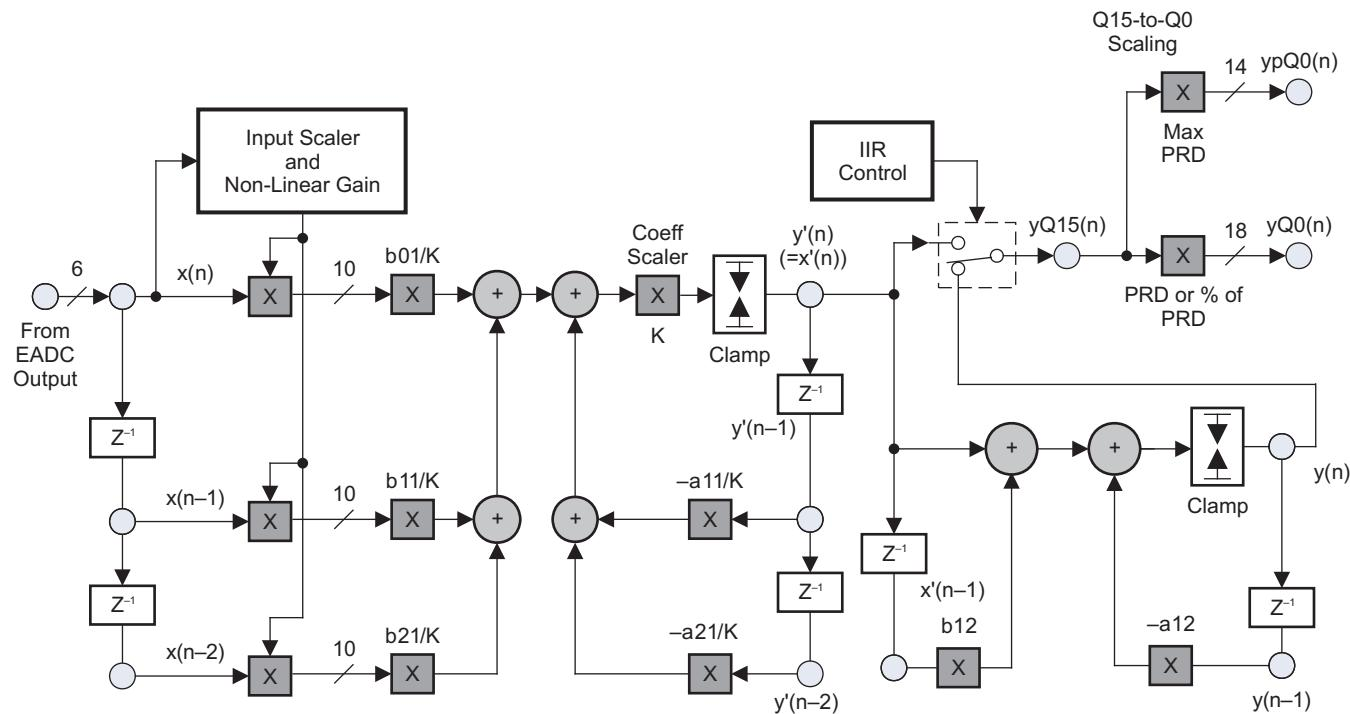

Figure 5. Compensator Architecture
The architecture of the digital compensator in the UCD30xx system is shown in Figure 5. The compensator is a digital filter consisting of a second-order infinite-impulse-response (IIR) filter section cascaded with a first-order IIR filter section. The function of the CLA is to operate on the 6-bit output from the error ADC (EADC) and generate a command output for: (1) a fixed-frequency DPWM duty-ratio control (duty-ratio control mode), or (2) a fixed-duty-ratio DPWM frequency control (resonant mode), or (3) a fixed-frequency DPWM phase-shift control of a slave DPWM with respect to a master DPWM (phase-shift control mode).
The filter mathematics calculates a per-unit command (duty-ratio control or frequency control) output [$Y_{Q15}(n)$] between 0 and 1. In duty-ratio-control mode, this command output is then multiplied by the user-programmable DPWM switching period (PRD) to determine the duty ratio of the DPWM output. The 18-bit commanded duty ratio output [$Y_{Q0}(n)$] from the CLA is made up as a 14.4 word. The upper 14 bits specify the low-resolution DPWM clock (PCLK, 250 MHz or 4 ns) counts, and the lower 4 bits specify the high-resolution clock phase, allowing a best-case DPWM resolution of 250 ps. In resonant mode, the per-unit command output [$Y_{Q15}(n)$] is multiplied by the user-programmable maximum switching period (Max PRD) to determine the switching period of the DPWM output. This commanded switching period output [$Y_{PQ0}(n)$] is a 14-bit word. In this case, the CLA also generates a fixed-duty-ratio output [$Y_{Q0}(n)$] that is based on a user-programmable percentage of the maximum switching period. In Figure 5 this programmable percentage is indicated as % of PRD.